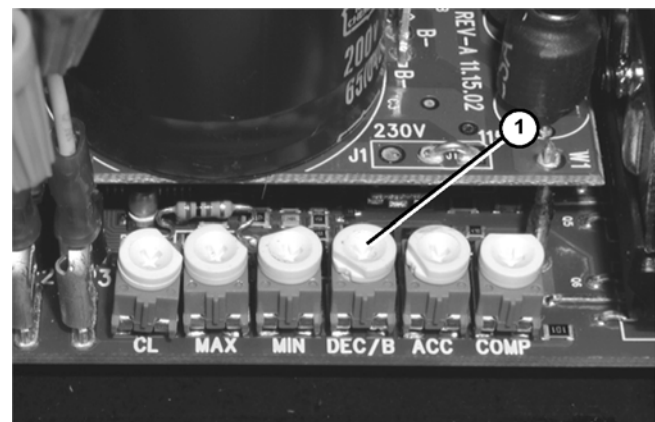

Figure 11
1. Turn counter clockwise (**Figure 11, item 1**) to reduce the time it takes to ramp down to a stop. For more details please refer to Bodine's Instructions for Installation and Operation Manual section Adjust Trim Pots.